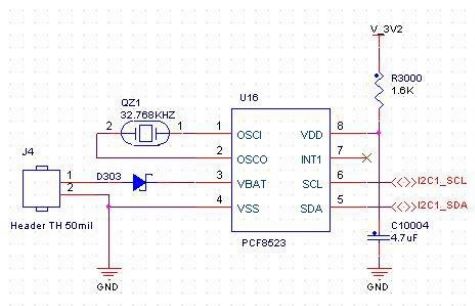

Figure3 RTC Generation Circuit using NXP's PCF8523
- Careful testing and measurement of component temperature must be made when enclosing the HummingBoard models with add-ons such as RTC battery, PCIe add-on, mSATA add-on or USB devices connected to internal USB ports. **RTC Backup Batteries have critical safety parameters such as temperature range and current rating that must NOT be exceeded.** RTC circuit is included in figure 3 for reference.